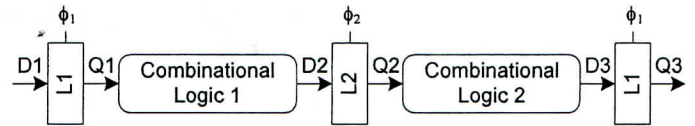

Fig. 5
- Consider the sequential circuit as shown in Fig. 5. Assume period of $\phi_1 = \phi_2 = 20ns$, $t_{ccq1} = t_{ccq2} = 1ns$, $t_{pcq1} = t_{pcq2} = 6ns$, $t_{hold} = 4ns$ and the clock skew = 2ns. (5%)